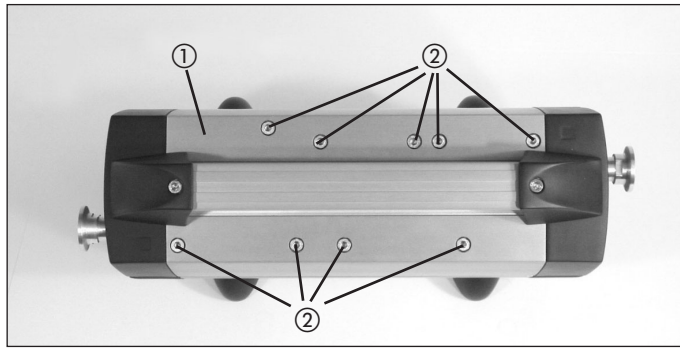

Fig. 4: Servicing level 1: before disassembling
- ▶ The numbered positions within the following operating instructions refer to figs. 4 to 7.
- 1 Undo the 9 screws ② in the head cover ① and lift the head cover off the pump housing ③ (see fig. 4).